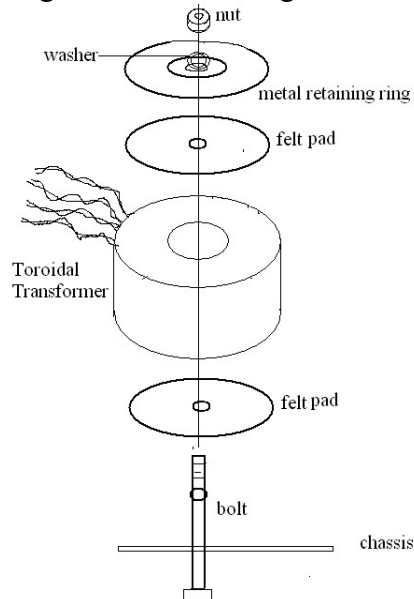

Figure 42-Toroidal Transformer Mounting
4. Mount the toroidal transformer to the chassis using the hardware shown in Figure 42. Orient the toroid and power wiring as shown on the front cover of this manual. Make sure the mounting hardware and toroid are centered before tightening the mounting bolt. Make it snug, but do not over-tighten.